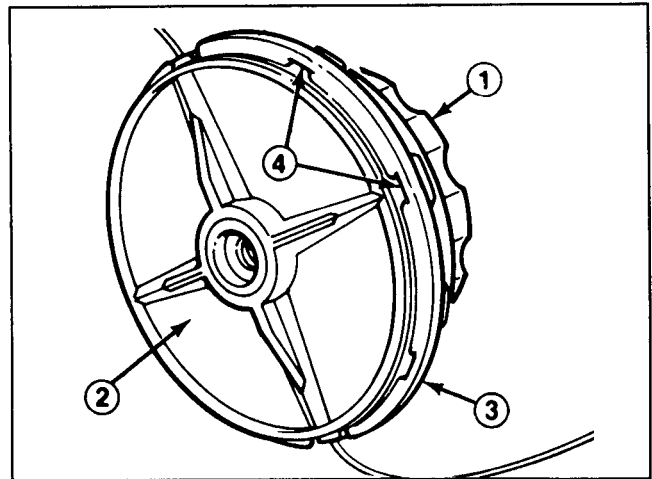

Figure 9
1. Loosen spool knob until spool teeth are above spool housing (Fig. 9).
3. Align spool teeth with notches in spool housing and tighten knob securely. Make sure spool teeth are in notches before tightening knob (Fig. 9).